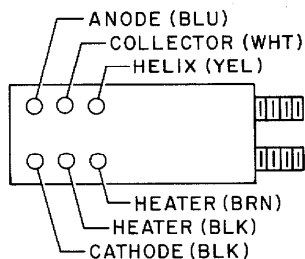

Figure 5-19. BWO Connections
- c. Disconnect helix, collector, anode, and filament (brown) leads. See Figure 5-19 for BWO terminal arrangement and color code. Connect each lead through the loading resistor specified in Table 5-25 to chassis ground.
- (1) Monitor filament current (should be approximately 1 ampere). If there is no filament current, the filament is probably open. Disconnect 8551 from power source and check with an ohmmeter (such as the 410B/C or 412A); connect ohmmeter from heater (brn) to heater (blk) (see Figure 5-19). Filament resistance should be approximately 1 ohm.
- (2) Monitor helix current as TUNE is turned through its range from 2 to 4 Gc. (Should be approximately 1-1/2 to 4 mA maximum across the band, with current at high end of band typically near maximum.